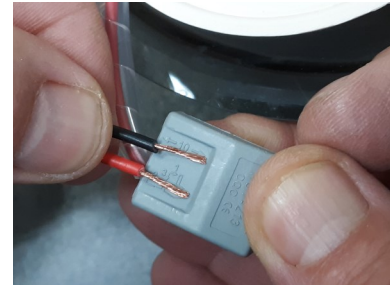
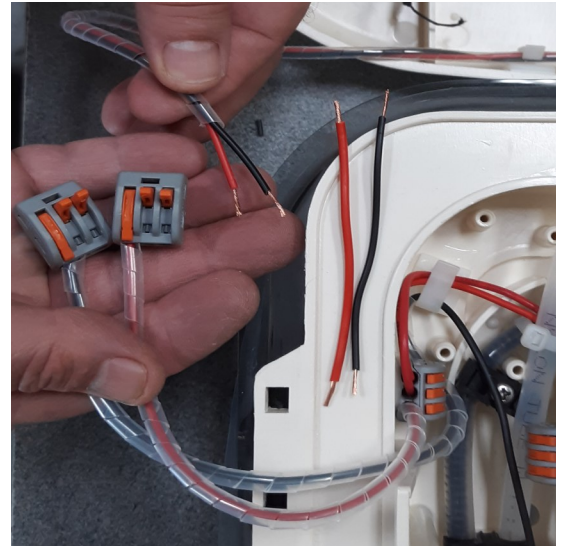
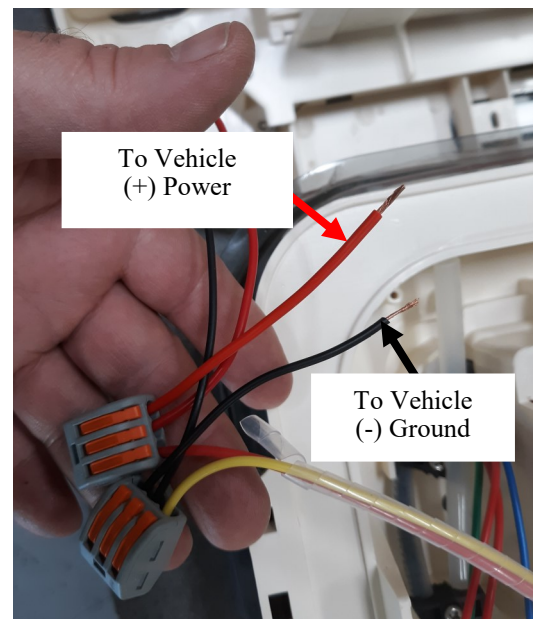

Figure 6
Figure 7
Figure 8
10. Strip and twist the positive and negative wires coming in from your electrical system, and the positive and negative wires from the interior trim ring, using the guide shown in *Figure 6*. Locate the electrical connectors as shown in *Figure 7*. There are two open ports on the positive and negative wire harness. One port on each is for the incoming wires, and one port on each is for the wires from the interior trim ring. Push the wires in and close the lever lock as shown in *Figure 8*.